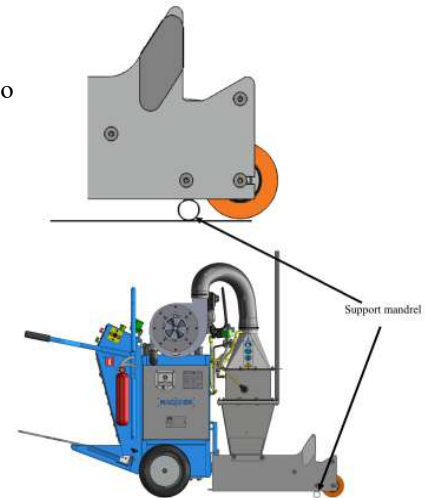

Figure 5
- Put the support mandrel under the unit to prevent pressure on the pressure roller that might create a permanent deformity (Fig. 5)